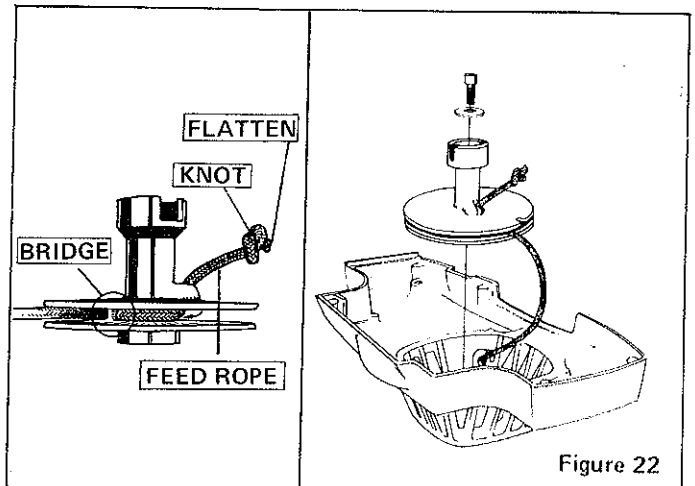

Figure 22
2. Remove screw using a 3/16 allen wrench. Figure 22.
4. Tie a knot in one end of the rope. Heat and flatten the knot end to prevent knot from slipping. Heat opposite end of rope and form a point. Feed pointed end of rope through the pulley and under the pulley bridge. Pull the rope through until the knot is tight against the pulley. Figure 22.